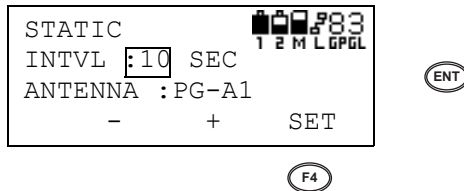

Figure 3-18. Confirm Selection and Press Enter or F4
- Confirm that the selected interval is correct, then press **F4** (SET) or **ENT** to set the interval (Figure 3-18).